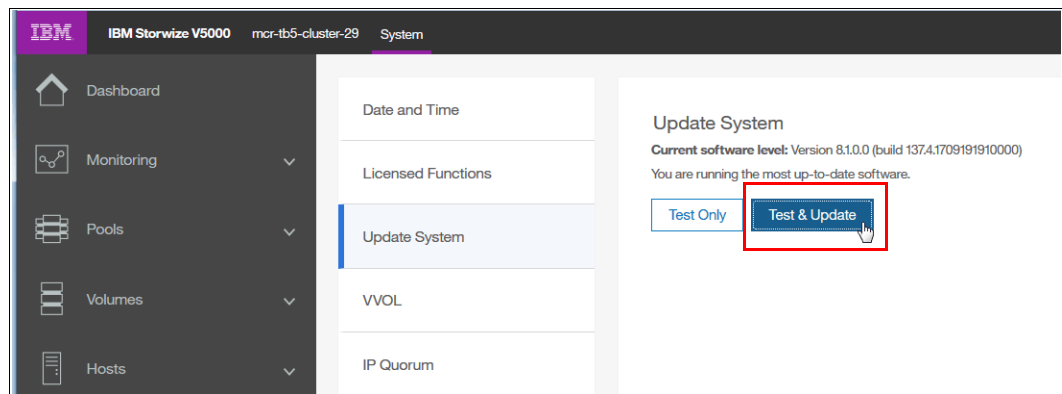

Figure 12-43 Update system panel
1. Browse to **Settings** → **System** → **Update System** and select **Update and Test**, as shown in Figure 12-43.